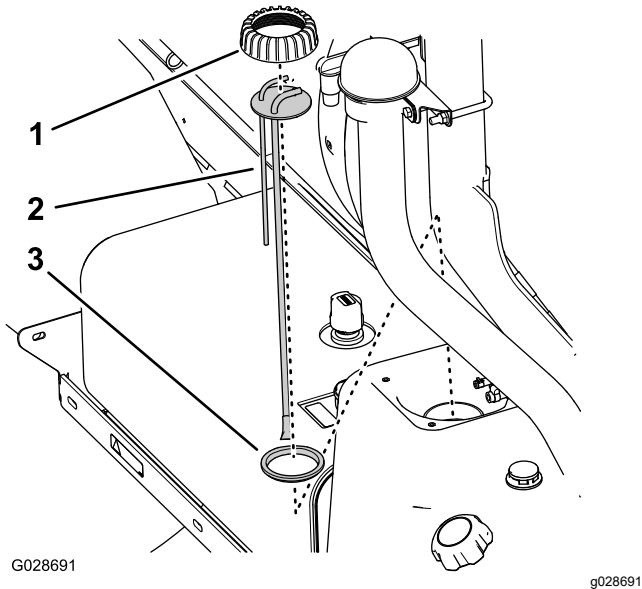

Figure 83
5. Rotate the fuel-standpipe/sender cap counterclockwise, then remove the cap (Figure 83).
6. Lift the fuel-standpipe/sender assembly from the fuel tank (Figure 83).
1. Assemble the standpipe cap over the standpipe and the standpipe to the seal (Figure 83).
2. Align the cap, standpipe, and seal to the tank, and carefully insert the new stand-pipe assembly into the fuel tank (Figure 83).
3. Thread the cap onto the neck of the fuel tank and tighten the cap hand tight (Figure 83).